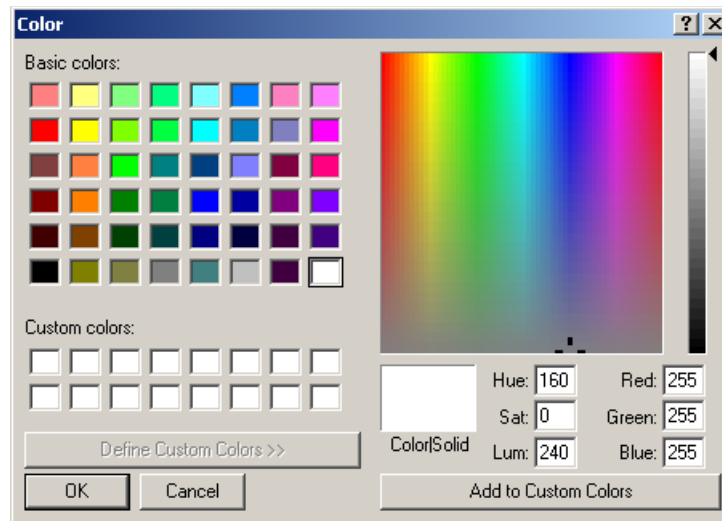

Figure 4.25: The Custom Colors Palette
2. If you want to use one of the existing color definitions, skip to the next step. If you want to define a custom color, click **Define Custom Colors**. The color palette expands, as shown in Figure 4.25 on page 4.30. Specify the color as a combination of Hue, Saturation, and Luminosity or as a combination of Red, Green, and Blue, and click **Add to Custom Colors**.